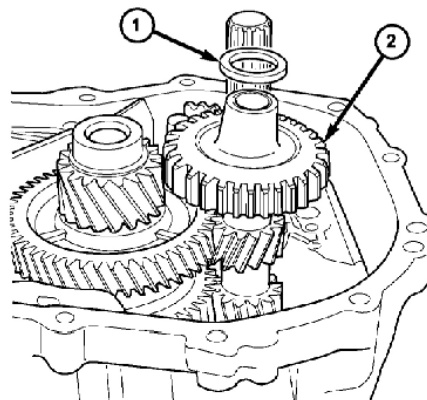

Figure 3-71 Reverse idler gear and sleeve gasket
- (14) Push the shift shaft sleeve gasket clip onto the selector and assemble the shift lever.
- (15) Assemble the reverse idler gear and sleeve gasket (Figure 3-71).